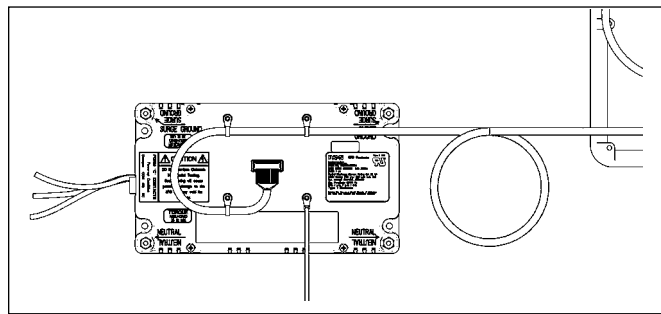

Figure 17. RDP to SPD connection
2. Connect the RDP cable to the SPD. Use tie wraps (already on the SPD) to secure the cable to the SPD. See Figure 17. Cable can be routed as a right or left dress.